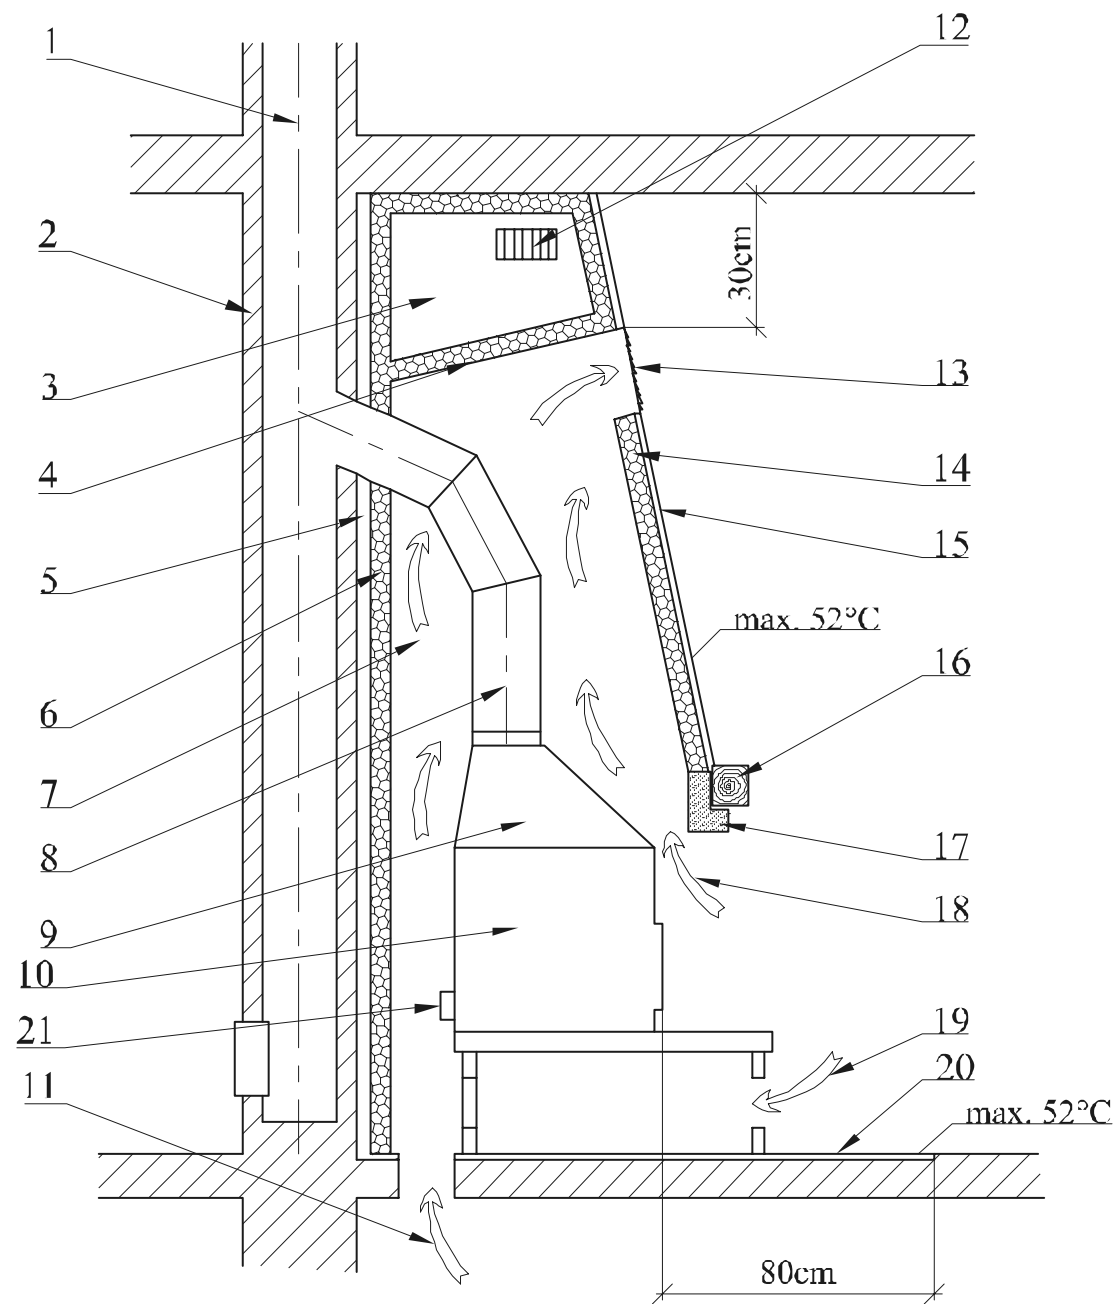

Figure 2
The safe distance from door case covers and similarly located building constructions from flammable materials and from pipeline installation including its insulation is at least **20cm**. The safe distance from other flammable parts of the building construction at least **40cm** (see fig.2) according to **ČSN 06 1008/1997**. This includes building materials belonging to classes **B, C1 and C2** as defined in **ČSN EN 13501-1/2010** (see table no.1) The same applies for walls and especially ceilings with plaster on a flammable surface, e.g. crates, planks, etc.! When the prescribed safe distances cannot be kept, the danger of fire must be prevented through construction solutions, non-flammable applications, heat-resistant insulations or protection screens.
5. The warm conventional air outlet must be at least **30cm** below the ceiling (figure 2).
6. An inflammable ceiling construction must be present above the conventional warm air outlet. Its temperature must not exceed **50°C**. Thus, the lower ceiling must be insulated from the effects of heat coming from the fireplace by a barrier and at least one not fully closeable grated opening (figure 2) or a sufficient layer of heat insulation.